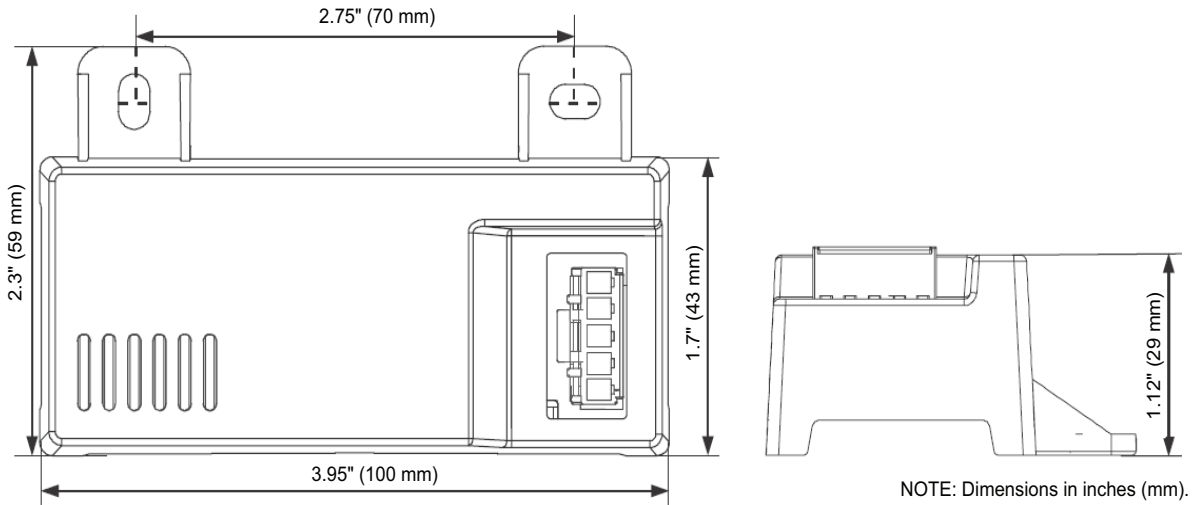
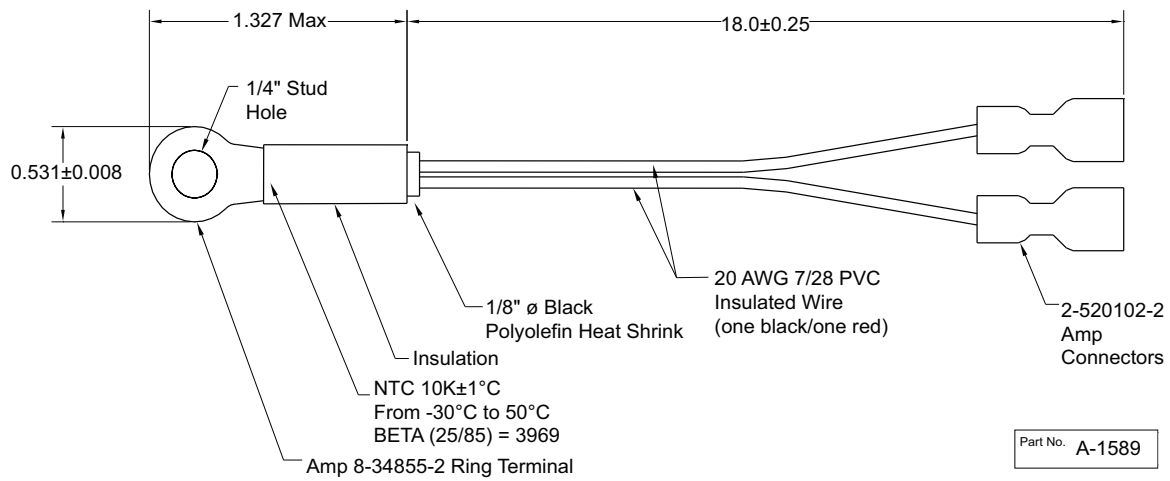
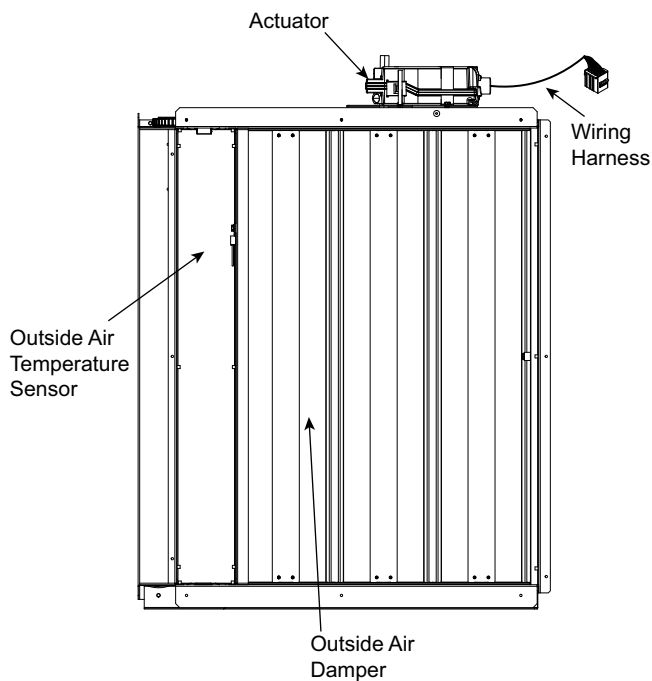

Fig. 79 – HH57LW001 Dimensional, Connection and Switching Information
Fig. 80 – HH79NZ039 Dry Bulb and Mixed Air Sensor Wiring
Fig. 81 – EconomizerONE Component Locations (CRECOMZR108A00 Shown)
When using the HH57LW001 enthalpy sensor (see Fig. 79) for outside air changeover, the existing HH79NZ039 dry bulb sensor (see Fig. 80) must be removed. The enthalpy sensor will be mounted in the same location as the dry bulb sensor (see Fig. 81). When the enthalpy sensor's OA (Outside Air) temperature, enthalpy, and dew point are below their respective setpoints, the outside air can be used for free cooling. When any of these are above the setpoint, free cooling will not be available. Enthalpy setpoints are configurable and create an enthalpy boundary according to the user's input. For additional details, see Fig. 82-83 and Table 35.
The optional enthalpy control sensor (P/N: HH57LW001) communicates with the POL224 economizer controller using the 5-wire harness, 48TC005213. The HH57LW001 sensor can be used as a single outside air enthalpy, a differential return enthalpy, or a differential return temperature sensor. Refer to the base unit control wiring diagrams found earlier in this book to wire the HH57LW001 enthalpy sensor for each option. Use Fig. 79 and Table 37 on page 68 to locate the wiring terminals for each enthalpy control sensor.
Economizers are shipped standard with an HH79NZ039 outside air dry bulb sensor (see Fig. 80). System default setting (high temp limit) is 63°F (17°C) and has a range of 48°F to 80°F (9°C to 27°C). Sensor is factory installed on economizer.
If installing the optional HH57LW001 enthalpy sensor, the HH79NZ039 dry bulb outside air sensor must first be removed. Wire sensor to harness 48TC005213 and the (5) wires from the harness to the EconomizerONE harness in the return air chamber. Harness 48TC005213 has a 5-pin plug that connects directly to the HH57LW001 enthalpy sensor. Refer to the base unit control wiring diagrams earlier in this book for wiring connections. Refer to Fig. 79 and Table 37.